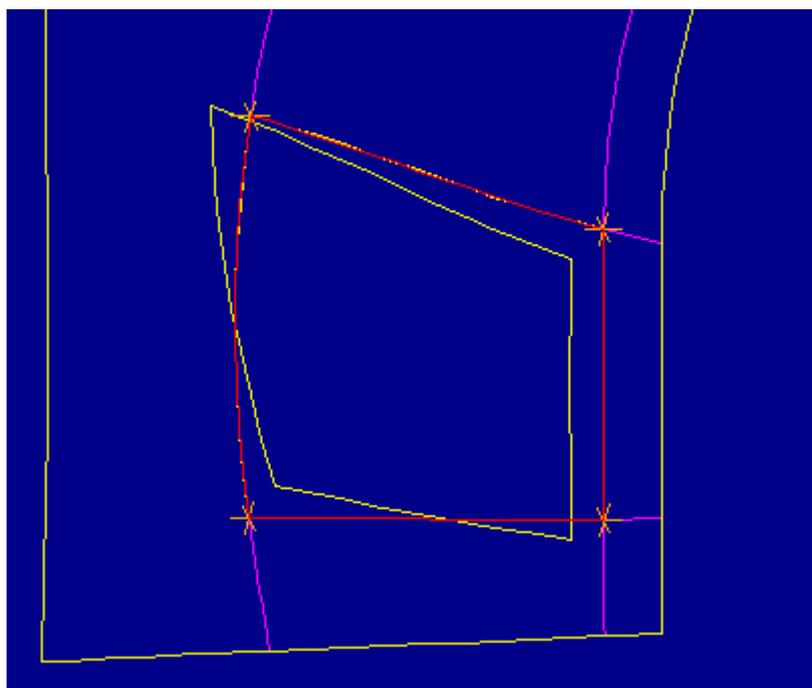
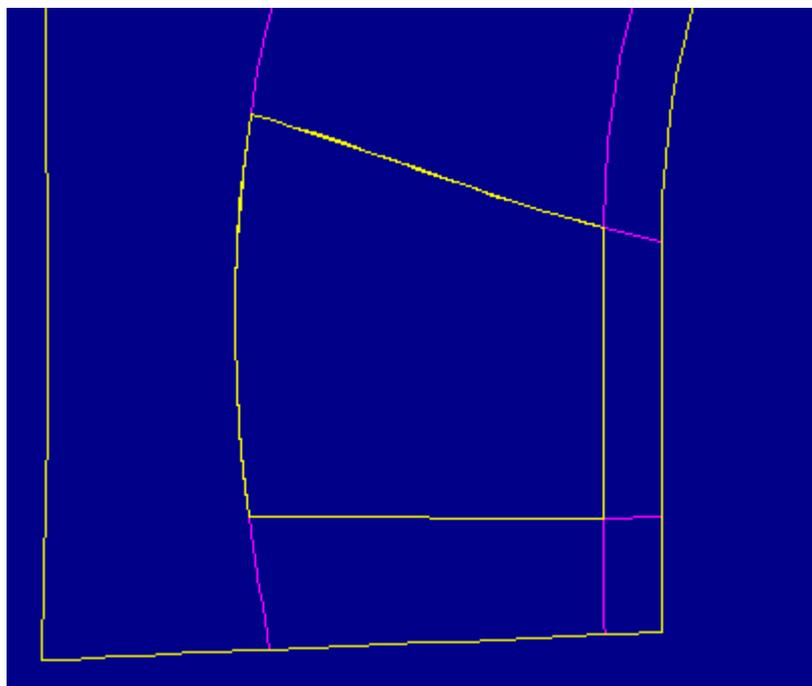

Figure 25
Figure 26
18. Figure 25 shows the replacement contour highlighted in red upon selecting **Preview**. Figure 26 shows the replacement of the original contour upon selecting **Done**. Notice how the edges and vertices have been aligned so the surface fits properly into the quilt. Also note that the surface has not been joined into the quilt because we have not yet returned from the editing process and allowed the regeneration of the import feature.